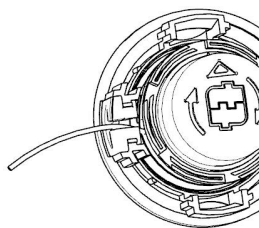

Fig.16
2. Place the trimmer line end through the metal position part, align the upper cover to spool retainer, and push them hard until you hear a clear “click” sound (Fig.16&17)